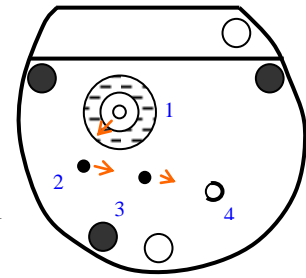

Figure 5: casing with motor + pinion gear 1
5.1 Notice that the motor is fitted into the casing (Part A) with a white pinion gear (1) attached near the top of motor shaft (**Fig. 5.**)